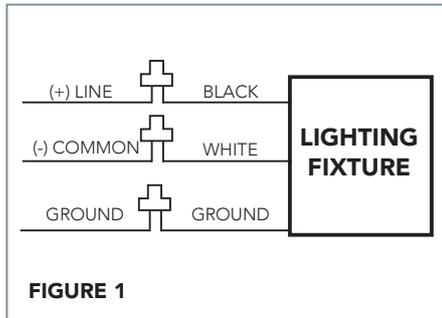

FIGURE 1
1. Loosen Allen screw on side of fixture and adjust angle to gain access to back box door. Screws will remain in place (FIG. 1)
Universal voltage driver permits operation at 120V through 277V, 50 or 60 Hz. Units ordered with (480V) suffix are 480V, 60Hz. For Non-Dimming, follow the wiring directions as in FIG. 1